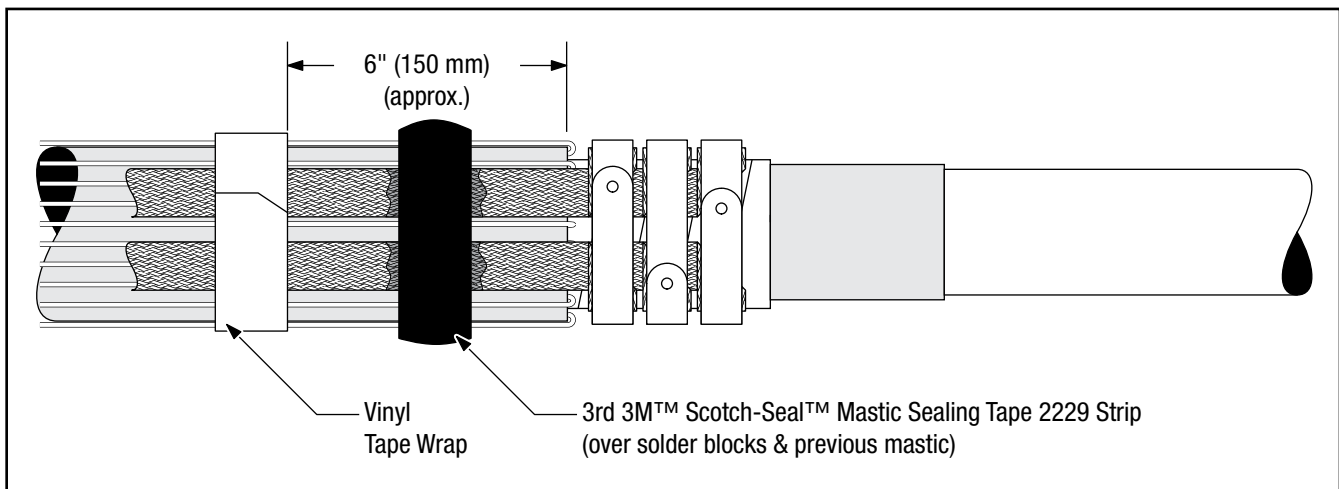

Figure 18
- 4.6 Cut a third length of 3M™ Scotch-Seal™ Mastic Sealing Tape 2229 Strip long enough to wrap a **SINGLE WRAP** over applied mastic and solder blocks. Remove the release liner from the mastic and, using light tension, apply mastic over the shield wires and previously applied mastic. (*Figure 18*)
- 4.7 Secure the shield wires and the two tails of the ground braid assembly to the cable jacket approximately 6" (150 mm) from the cable jacket edge with several wraps of vinyl tape. (*Figure 18*)